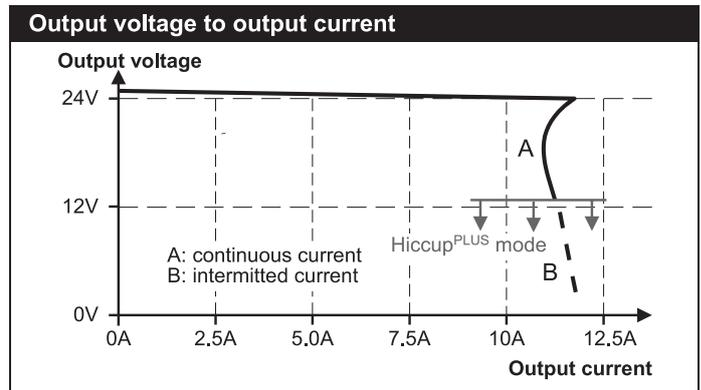

Figure 7
- The device is equipped with the HiccupPLUS overload characteristic. At heavy overloads (when output voltage falls below 13V), the device delivers continuous output current for 2.8 s. After this, the output is switched off for 7s before a new start attempt with 1.2s is automatically performed. This cycle is repeated as long as the overload exists. If the overload has been cleared, the device will operate normally (see Fig. 7)